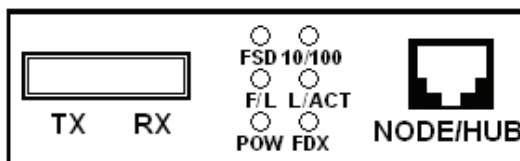

fig.2 Front Panel
2.2 Appearance (Fig.2, Table2)